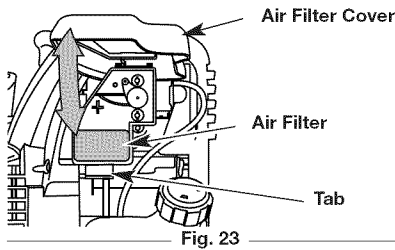

Fig. 23
1. Open the air filter cover. Push the tab on the under side of the cover inward. Then pull the air filter cover out and up. (Fig. 23).
7. Reinstall the air filter cover. Position the slots on the top of the air filter cover onto the tabs at the top of the back plate (Fig. 23).
8. Swing the cover down until the tab on the air filter backplate snaps into place in the slot on the air filter cover (Fig. 23).